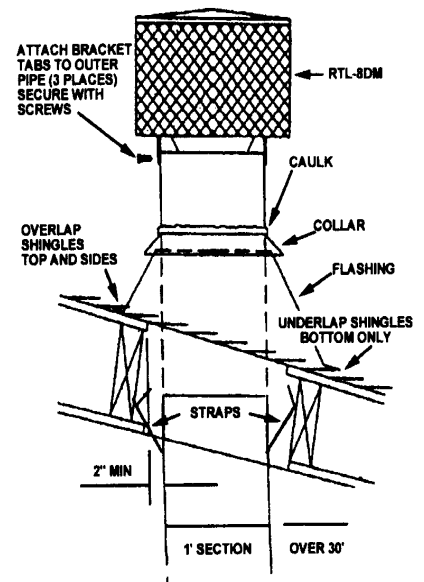

FIG 7: chimney termination
- Return to the roof with the storm collar and termination cap. First install the storm collar around the exterior of the flue section extending above the roof flashing. Tighten and slide down over the top of the roof flashing, secure and seal. Install the termination cap as per manufacturer's instructions. See FIG 7.